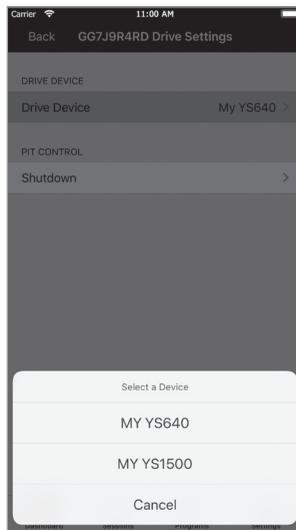
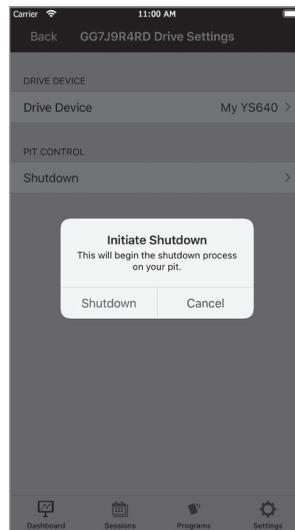

FIG 22
FIG 23
- Tapping the small wrench icon in the upper right of the grey bar will take you to a section that allows you to choose between multiple cookers (if you have more than one paired to your mobile device) (FIG 22) and also allows you to shut down your cooker (FIG 23).